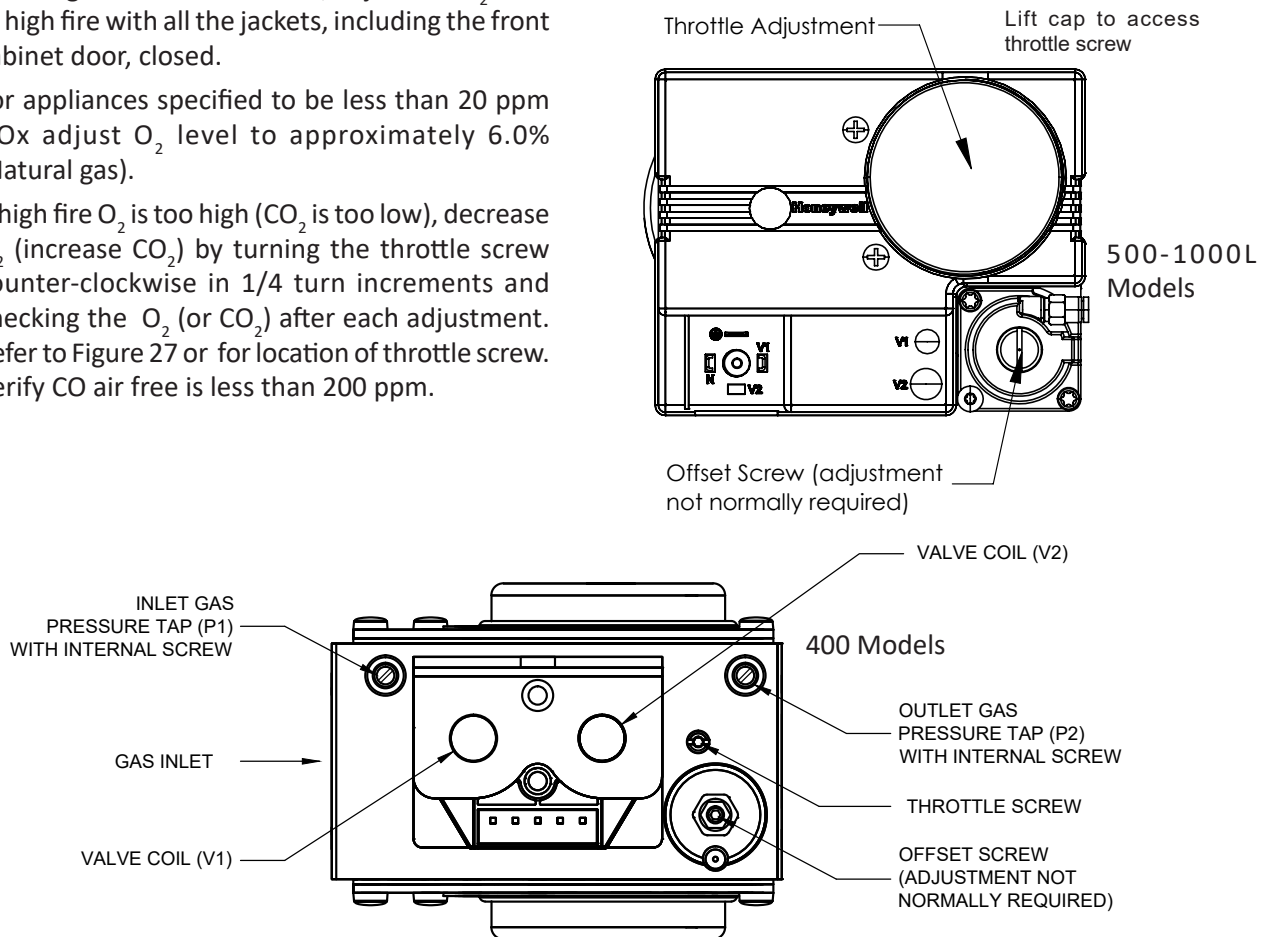

Figure 27: Gas Valve Adjustment
- d. If high fire O₂ is too high (CO₂ is too low), decrease O₂ (increase CO₂) by turning the throttle screw counter-clockwise in 1/4 turn increments and checking the O₂ (or CO₂) after each adjustment. Refer to Figure 27 for location of throttle screw. Verify CO air free is less than 200 ppm.
- e. If high fire O₂ is too low (CO₂ is too high), increase O₂ (decrease CO₂) by turning the throttle screw clockwise in 1/4 turn increments and checking the O₂ (or CO₂) after each adjustment. Refer to Figure 27 for location of throttle screw. Verify CO air free is less than 200 ppm.